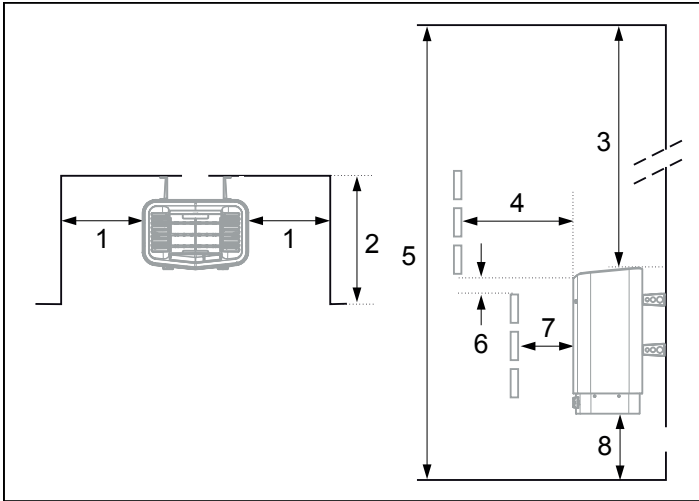

Figure 3: Positioning the heater - recess installation
- on the same wall as the door (or the side wall if very close to the door wall). The heater can also be positioned in a recess (see Figure 3).
Position the heater at a safe distance from the floor, side walls and interior fittings (see Figure 3).